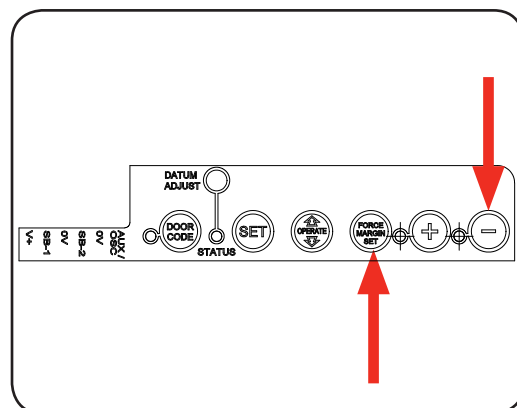

Fig.23
Step 12.4 - To Decrease Force Pressure (Fig.23)